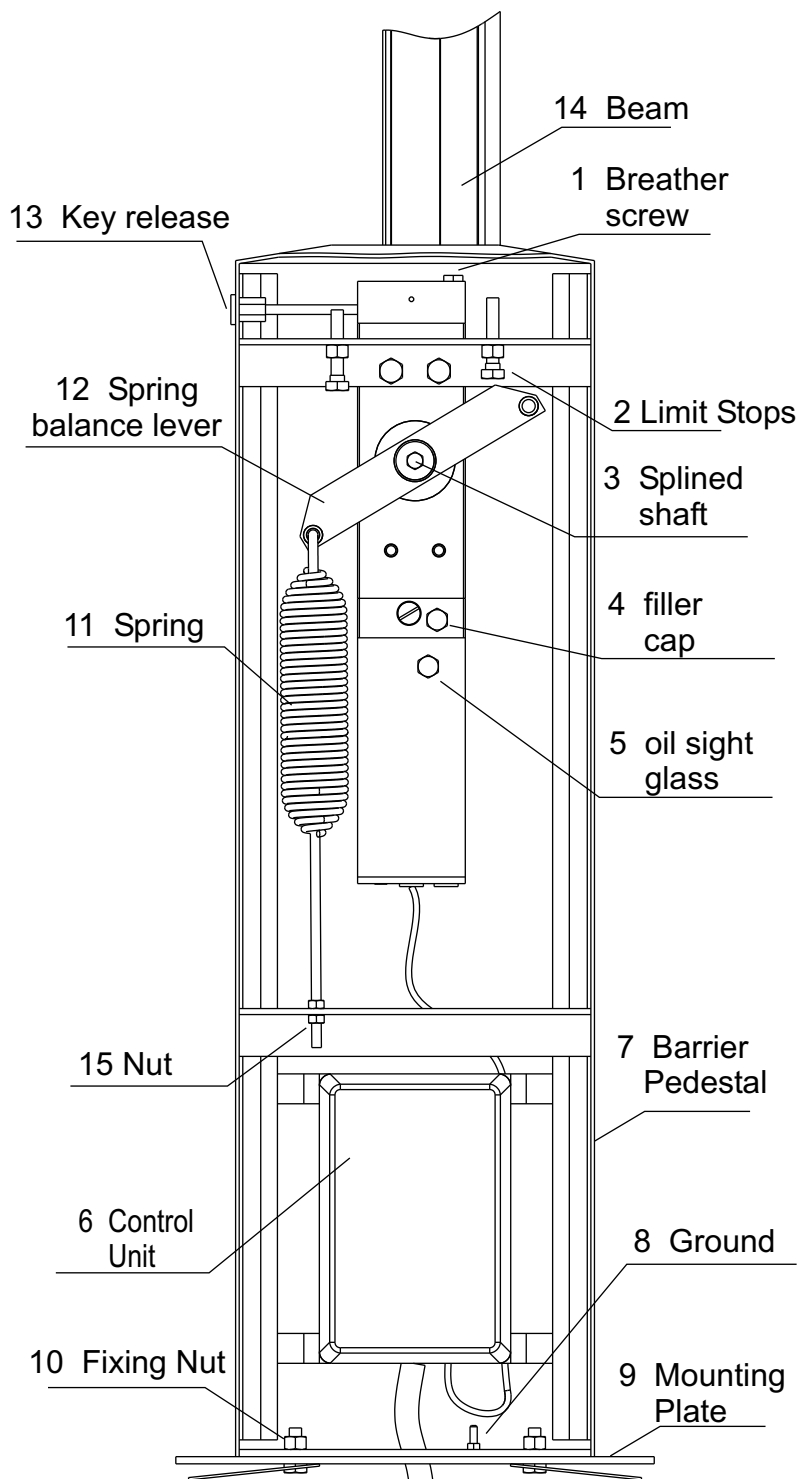

Fig. 1
Fig. 1 shows the constituent parts of the Vela unit, including the pedestal casing, electro-hydraulic operator and counter sprung beam assembly.
- Partly fit the travel limit bolts and lock nuts (2 in Fig. 1). They will be adjusted while balancing the beam.
- Fit the balance spring (11 in Fig. 1) on the balance lever and spring adjusting rod (10):
- Move the beam (14) to an angle of 45° and adjust the tension of the spring using the adjusting rod.
IMPORTANT: REMOVE THE BREATHER SCREW (1 in Fig. 1). SUBSTITUTE THE TRANSIT OIL FILLER CAP (4) FOR THE FILLER CAP WITH A BREATHER HOLE WHICH IS SUPPLIED WITH THE KIT